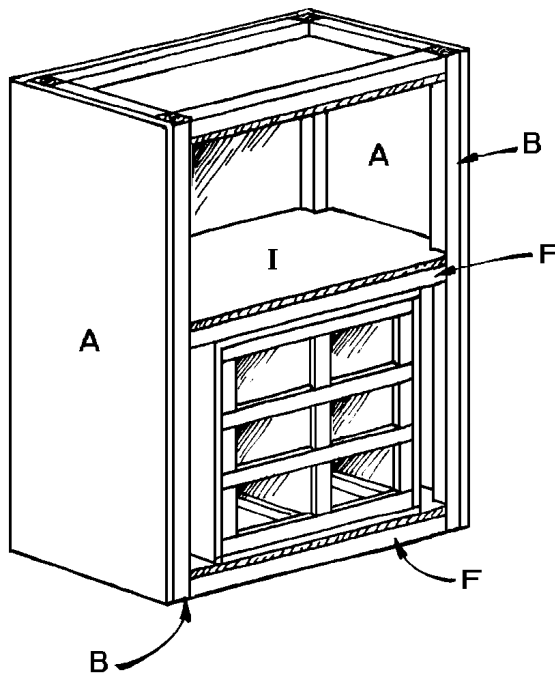

Figure 15
1. Slide the completed drawer housing inside the lower section of the armoire. As shown in *Figure 15*, the exposed edges of the drawer housing should be flush with the exposed edges of the Inner Shelf (I), the Front Horizontal Supports (F), and the Bottom (H). The sides of the drawer housing should be positioned equidistant from the Vertical Supports (B) with 3-1/2 inches of open space on each side of the housing.
2. Using 2-1/4"-long screws, attach the drawer housing to the armoire, screwing through the top of the housing into the Front Horizontal Support (F). Similarly, screw through the housing bottom into the bottom (H) and into the front horizontal support (F) below the bottom (H). Refer to *Figure 15*.